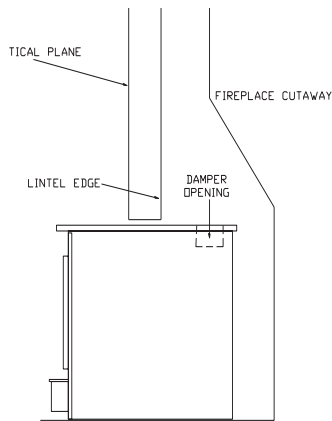

FIGURE 5 POSITIONING
When positioning heater, the following conditions **MUST** be met! (See Figure 5).
1. The front of damper opening must be positioned **BEHIND** back edge of the lintel to ensure proper draft. (See Figure 5).